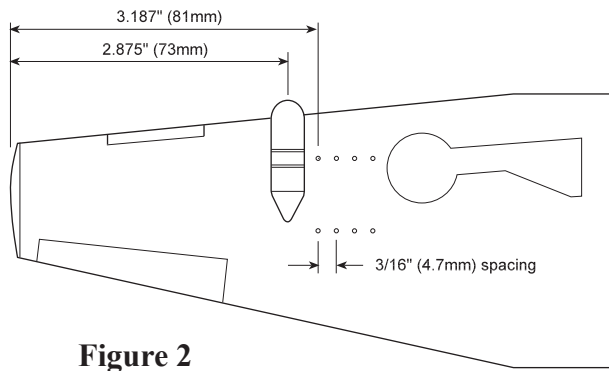

Figure 2
d) RCN Avengers were armed with rockets mounted on zero length launchers as supplied with the kit. However, the kit locations for the rocket launchers are incorrect for RCN machines, being too far out the wing and too widely spaced. Use **Figure 2** to re-site the launchers. Even if you don't mount the rockets, the launcher parts should be installed.